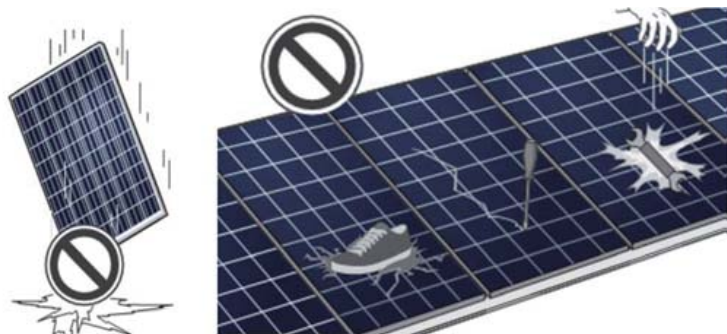

Figure 4. Handling Precautions
10. Do not step or walk on the Modules. Doing so may damage modules (please see Figure 4).
11. Do NOT carry wet or hot Modules dropping a module from an height and the impact of falling tools may affect the electrical performance or break the module (see Figure 4).